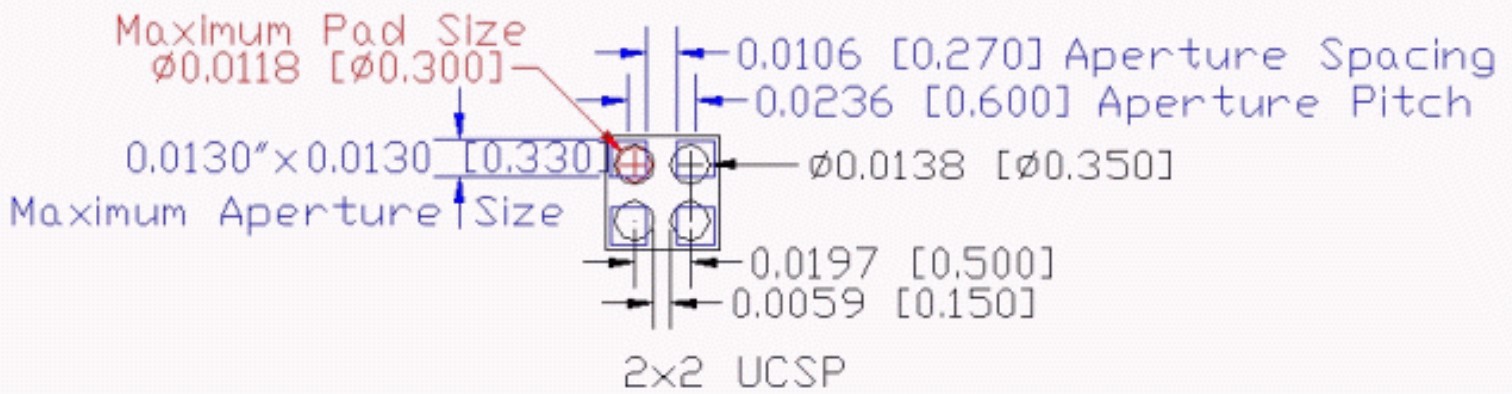

Figure 4. Example of 2x2 UCSP offset apertures Solder Stencil design
- Solder Stencil Aperture Design: Use aperture aspect ratio of ≥ 0.75 for Laser Cut SS and ≥ 0.66 for E-Form Ni, with square (25 micron corner radius) vs. round aperture preferred for improved solder paste deposition repeatability. Aperture aspect ratio is defined as the aperture opening area divided by the aperture side wall surface area. Optionally, apertures X & Y offsets from land pads may be utilized to maximize separation between paste deposits and minimize the potential for solder bridging, as in Figures 4 and 5.